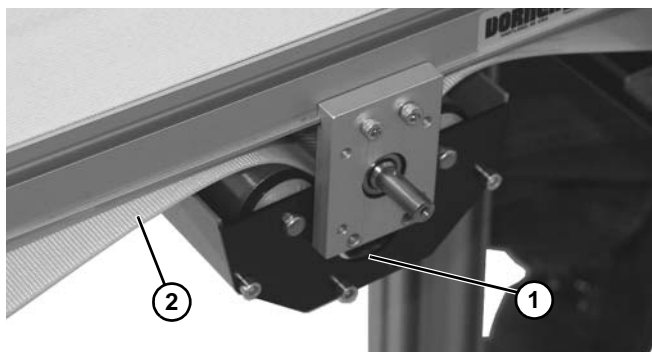

Figure 107
- Lower and remove mid drive module (**Figure 107, item 1**) from belt (**Figure 107, item 2**).